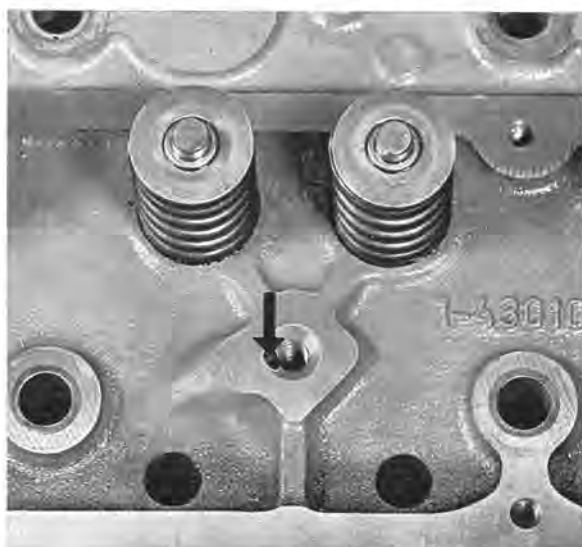

Fig. 2-23. Oil hole in cylinder head
The bolts should be tightened in two stages and final-tightened after running the engine warm. Check that the oil hole (Fig. 2-23) for lubricating the rocker arms is not blocked.
Check that the oilway (Fig. 2-23) for the rocker arm mechanism is clean on the tappet side. In the cylinder head the oil goes up through the bolt hole, between the bolt and the wall cavity and then through an oblique drilling to the attaching bolt for the rocker arm shaft and finally up the shaft.
3. Check that the oil hole (Fig. 2-23) in the cylinder head for the rocker arm mechanism is not blocked.